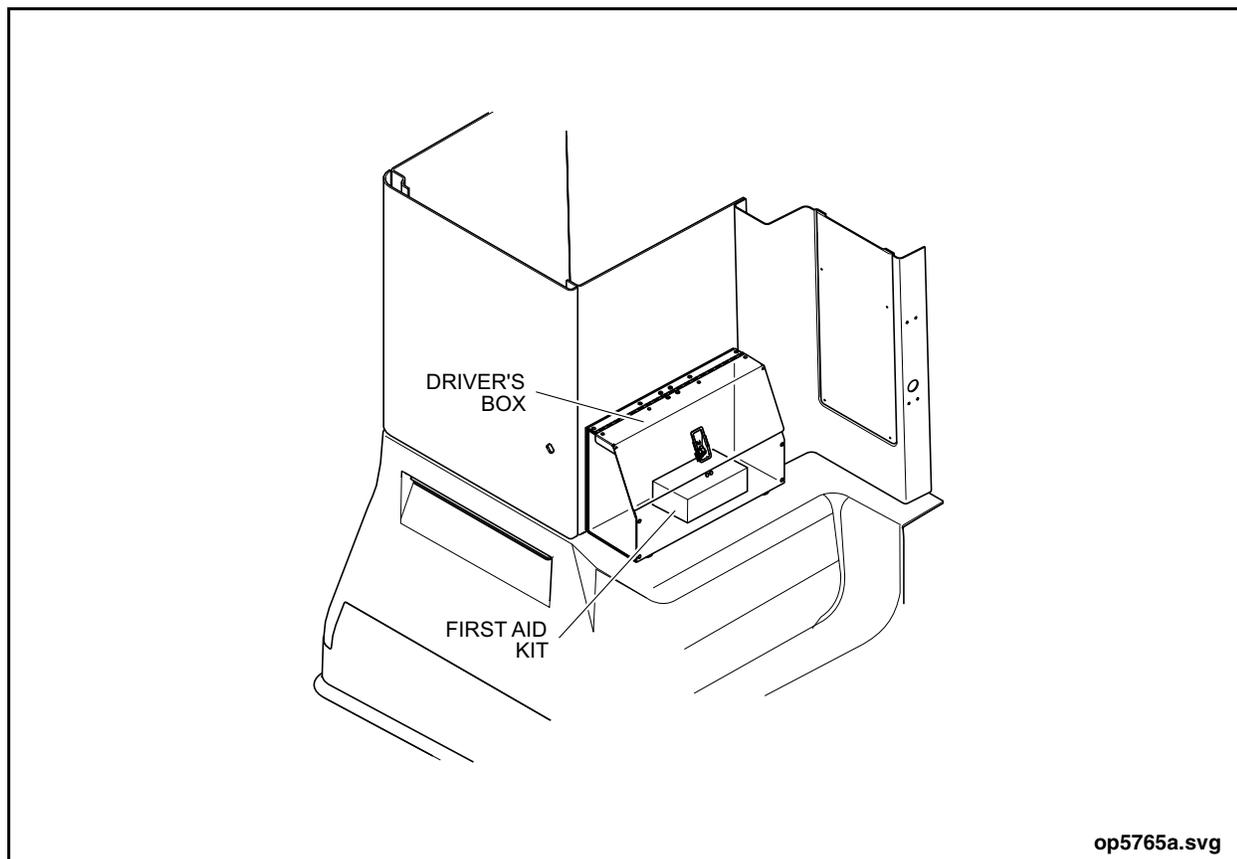

Figure 7: Safety Equipment - 2
- First aid kit - Become familiar with the contents of the kit before using it. See “Figure 7: Safety Equipment - 2” on page 20.